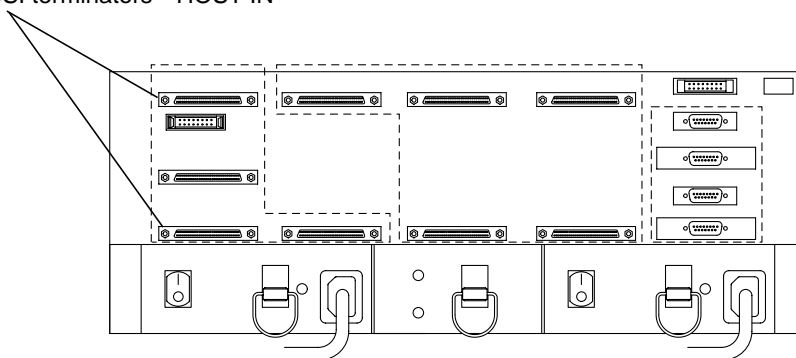

FIGURE 2-1 Differential SCSI Terminators on Rear of Controller Module
- Install 16-bit, differential terminators to both HOST IN connectors on the back of the controller module (FIGURE 2-1).